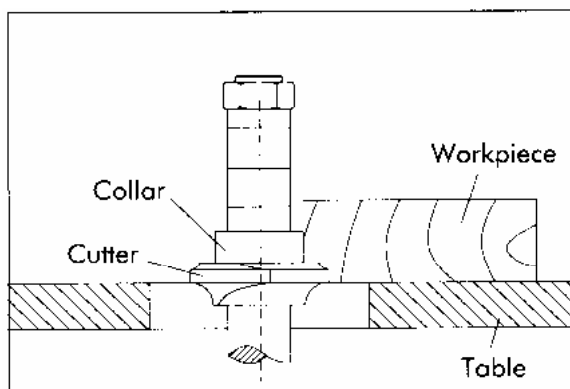

Fig.4.7
2. When the collar is used above the cutter, as shown in Fig. 4.7, the cut can not be seen, but this method offers an advantage in that the cut is not affected by light variations in the thickness of the stock. Also, accidental lifting of the work-piece will not gouge the work-piece; simply repeat the operation to correct the mistake.